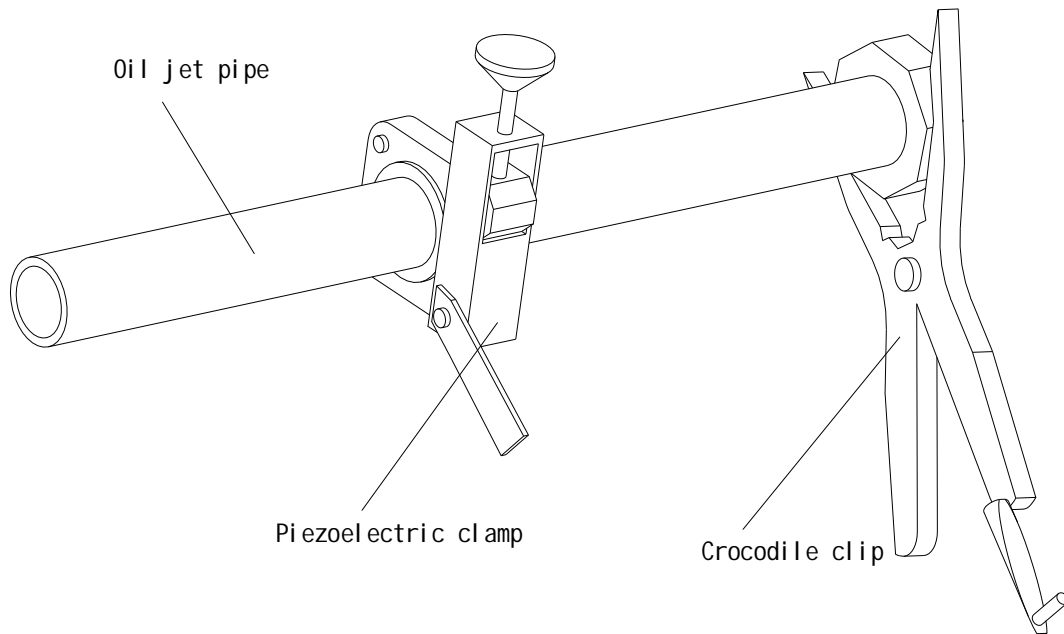

Fig. 36 Use of Piezoelectric Clamp
c. Insert the terminal of the piezoelectric clamp into the cable connector, clip it on the oil jet pipe, and tighten the nut on the clamp by hand (Note: Tighten 1/4 circle more when the speed clip fully touches the oil jet pipe. Never use any mechanical tool for tightening, or the piezoelectric clamp may be damaged). Otherwise, it may cause the instable test data. Put the crocodile clip for cable connection on the nut of the oil jet pipe (Note that the nut shall be clean). Refer to Fig. 36.